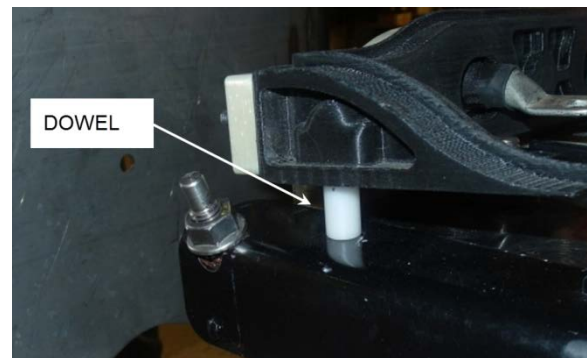

FIGURE 51: DOWEL ON ANGLE
5. Align the dowels on the angles with the holes on the cable guides (FIGURE 51).